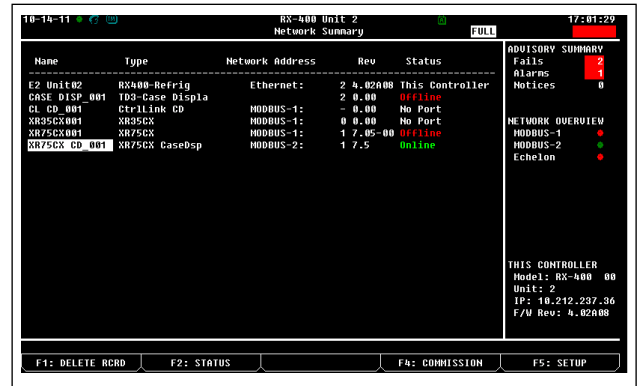

Figure 16-6 - Network Summary Screen
8. When finished, press to return to the **Network Setup** menu, then press **1** - **Network Summary** (Figure 16-6). Locate the devices you set up, and look at each device's status in the **Status** field. You will see one of the following messages: